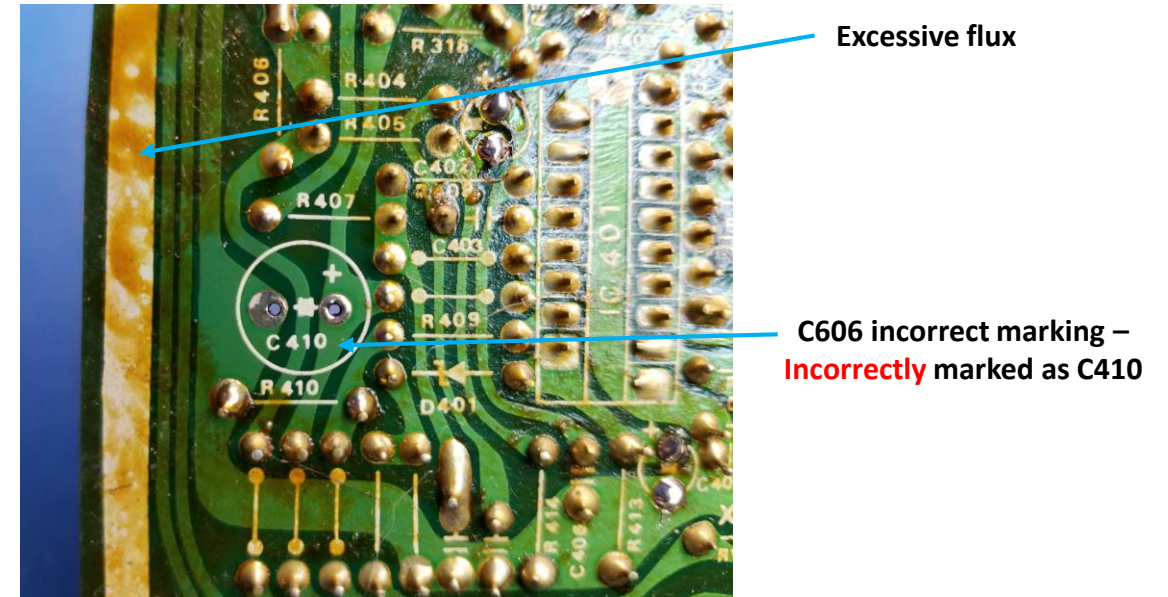

Figure 2
3. There is an error in the marking of the solder side of C606, as shown in Figure 2. Locate the C606 capacitor on the component side of the PCB. Then flip the PCB over and you will notice the same capacitor is incorrectly marked as C410 on the solder side. C606 is correct.